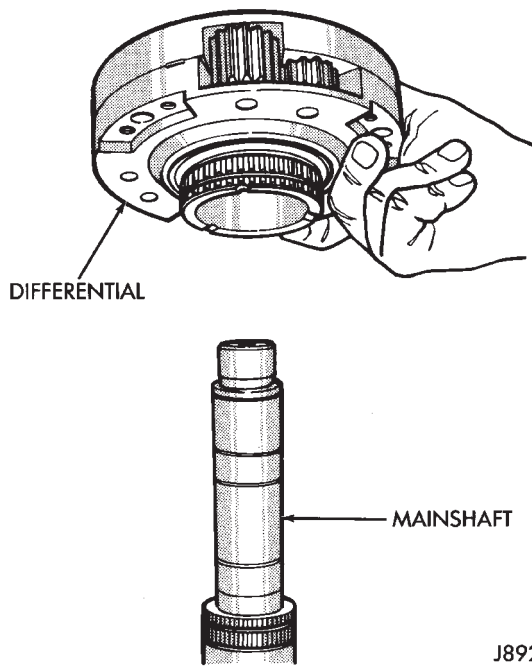
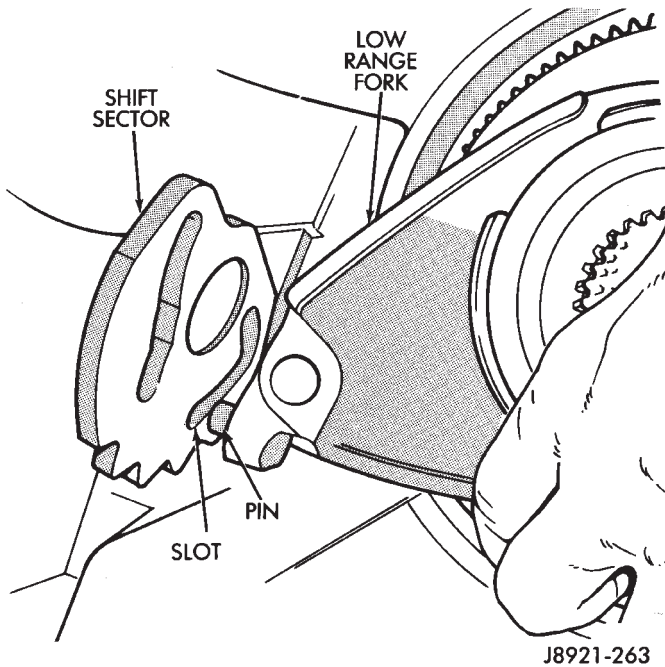

Fig. 23 Differential Removal
Fig. 24 Disengage Low Range Fork
- (35) Remove differential (Fig. 23).
- (36) Remove differential needle bearings and both needle bearing thrust washers from mainshaft.
- (37) Slide low range fork pin out of shift sector slot (Fig. 24)